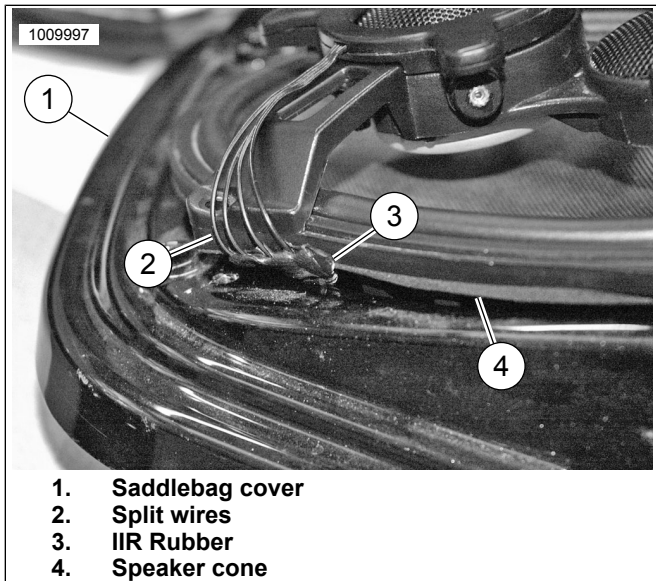

Figure 9.
1. See Figure 9. Verify IIR Rubber (3) is between split wire (2) area and saddlebag cover (1). This should encapsulate the wires and seal speaker cone (4) to saddlebag cover to prevent water intrusion.